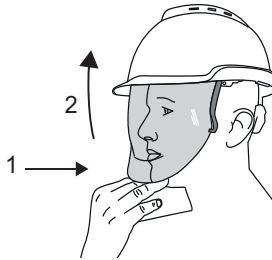

Fig. 5
(2) To raise the visor, pull the visor slightly towards the face first, then push the visor up with one hand placed centrally on the visor bill (see Fig. 5).